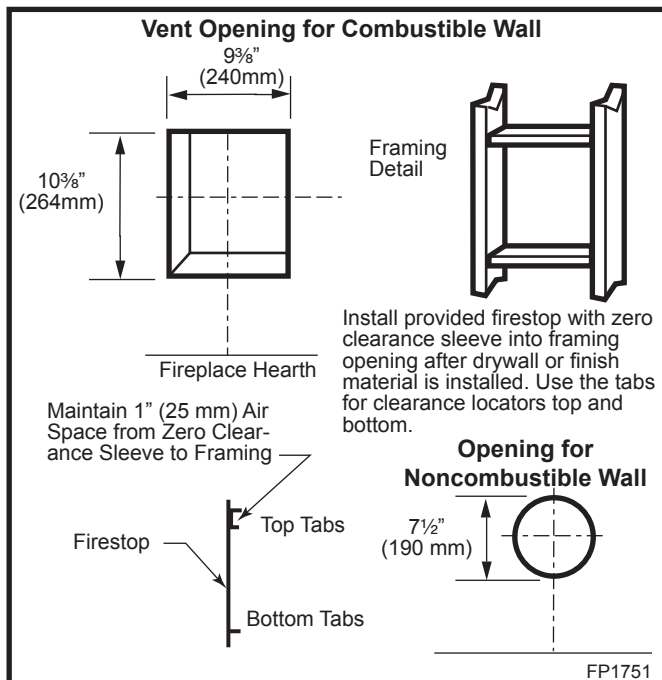

Fig. 17 Locate vent opening on wall.
Combustible Walls (Fig. 17): Cut a 10 $\frac{3}{8}$ " H x 9 $\frac{5}{8}$ " W (264 x 240 mm) hole through the exterior wall and frame as shown.
Noncombustible Walls (Fig. 17): Hole opening must be 7 $\frac{1}{2}$ " (190 mm) in diameter.
1. Establish vent hole through the wall. (Fig. 17)